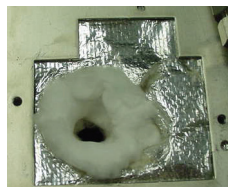

Figure 4.12. Cut into the Insulation
4. After selecting the desired detector port, cut a 1" diameter x 0.5" deep circle out of the GC insulation of the desired detector port (see Figure 4.12).